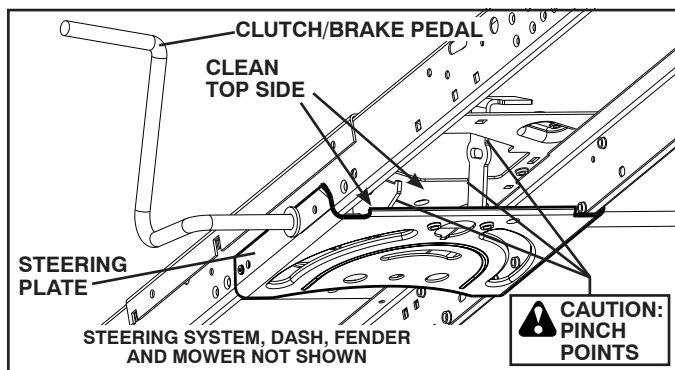

Fig. 30
**CAUTION: Avoid all pinch points and movable parts (See Fig. 30)**